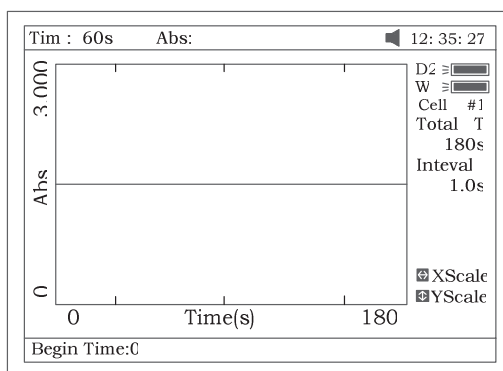
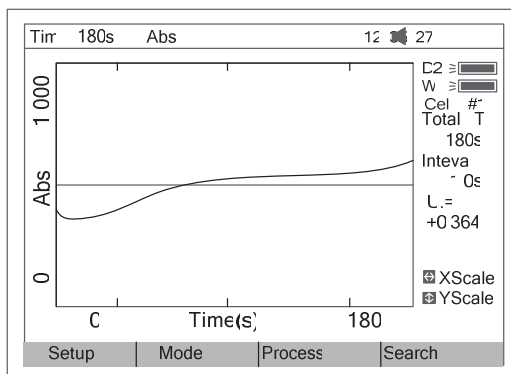

Fig 56
Fig 57
5. Press **[F3]** to process the data, and enter “Begin Time”, “End Time” and “Factor” (Fig 56) and the value in I.U. will be calculated and displayed (Fig 57). The average straight line between the Begin Time and End Time will be calculated. The gradient of this line gives the rate of change of $\Delta A/\text{min}$.